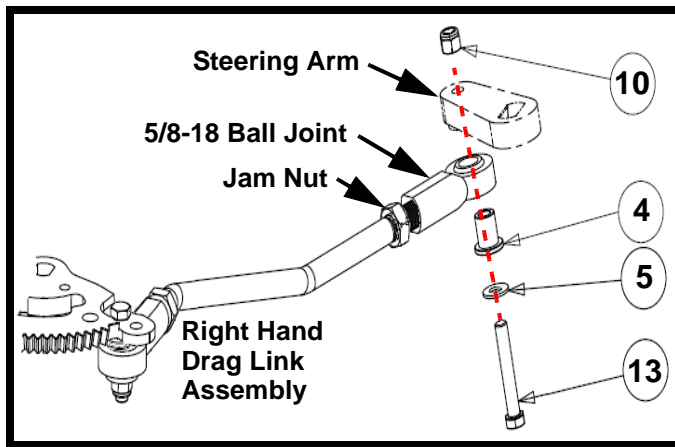

FIGURE 13
34. Making sure not to move the segment gear or either wheel, turn the right hand drag link 5/8-18 ball joint in or out as necessary to align with the hole in the steering arm. See Figure 13.
35. Place one (1) of item #5 (736-3050) flat washer over one (1) of item #13 (710-0331) 3/8-24 x 2.25" hex head cap screw. See Figure 13.
36. Install one (1) of item #4 (738-05136) Shoulder spacer over item #13 (710-0331) 3/8-24 x 2.25" hex head cap screw with the flange side towards the flat washer. See Figure 13.
37. Install the assembled items from Steps 35 and 36, from the bottom up through the 5/8-18 ball joint and the 3/8" hole in the steering arm and hold in place. See Figure 13.
38. Thread one (1) of item #10 (712-3061) 3/8-24 nylon lock hex nut onto item #13 (710-0331) 3/8-24 x 2.25" hex head cap screw finger tight. See Figure 13.